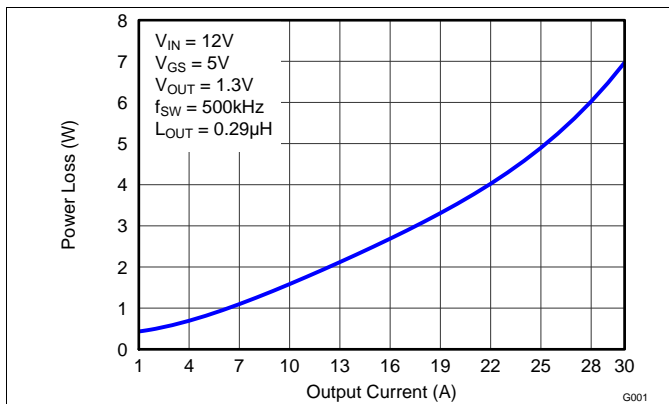
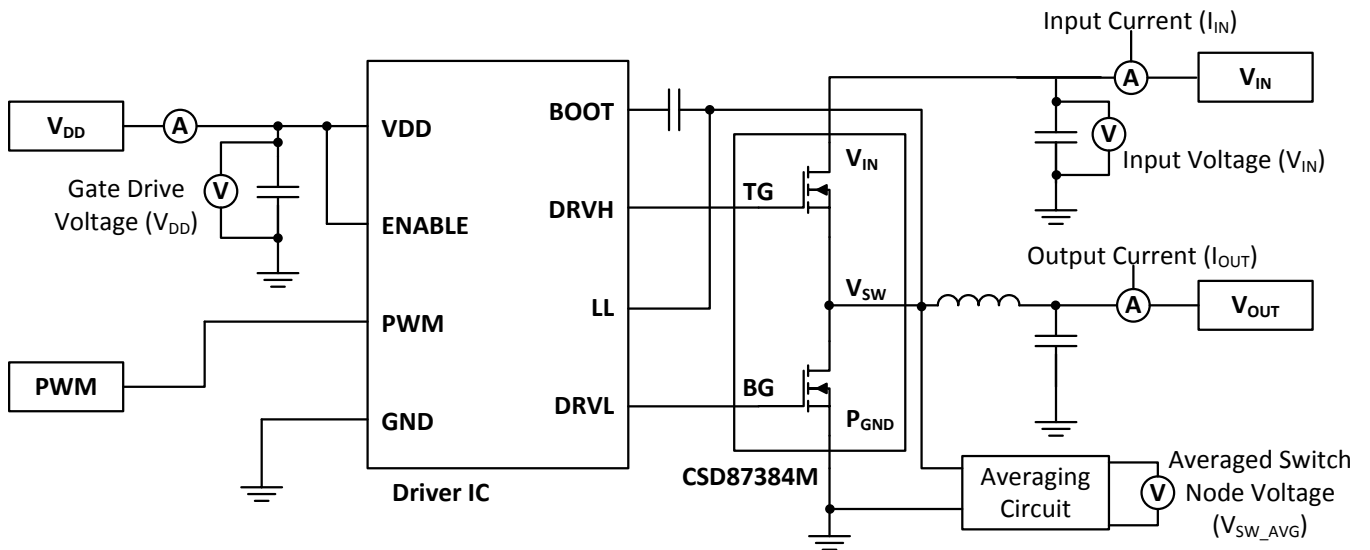

Figure 1. Power Loss vs Output Current
Figure 27. Typical Application
MOSFET-centric parameters such as  $R_{DS(ON)}$  and  $Q_{gd}$  are needed to estimate the loss generated by the devices. To simplify the design process for engineers, TI has provided measured power loss performance curves. Figure 1 plots the power loss of the CSD87384M as a function of load current. This curve is measured by configuring and running the CSD87384M as it would be in the final application (see Figure 27). The measured power loss is the CSD87384M loss and consists of both input conversion loss and gate drive loss. Equation 1 is used to generate the power loss curve.
The power loss curve in Figure 1 is measured at the maximum recommended junction temperatures of 125°C under isothermal test conditions.
- Power Loss at 20 A = 3.5 W (Figure 1)